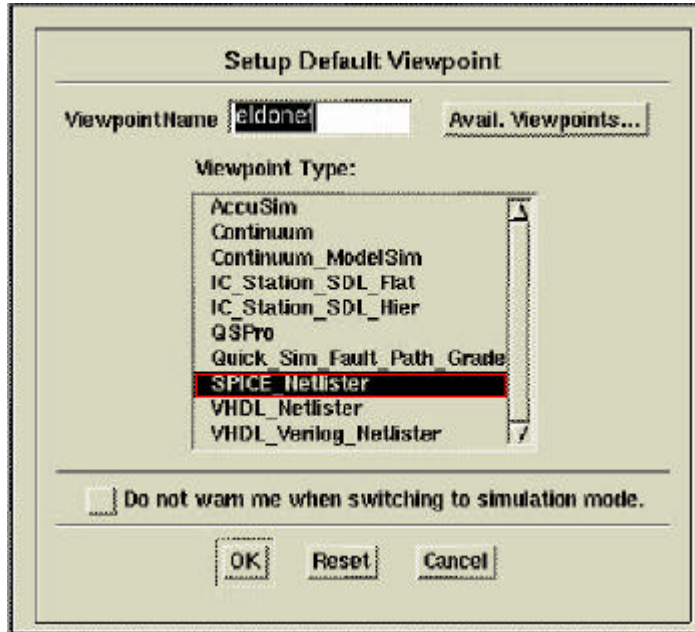

Figure 5-1. Setup Default Viewpoint
2. To prepare a **Viewpoint** for simulation in DA_IC, click **Simulation** in the palette, click **OK**, and then click **EndSim** (To make sure the Netlist is SPICE_Netlister and Viewpoint name is eldonet by click option as shown in Figure 5-1.)